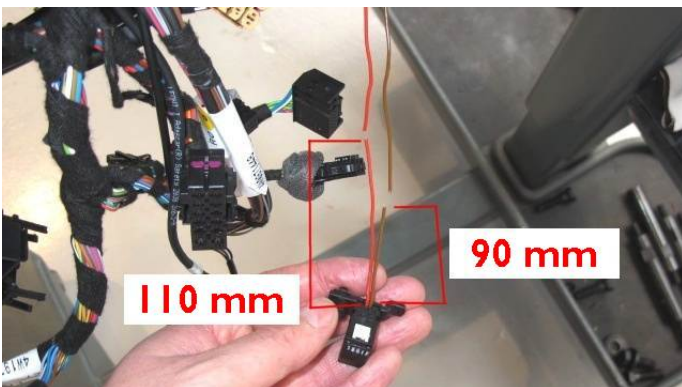

Figure 16
- Referring to Figure 16, the cables should be cut as follows: